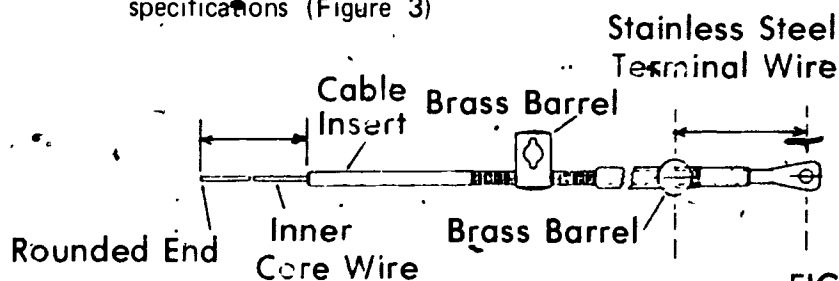

FIGURE 3
4. Pull core wire out of outer cable and measure to service manual specifications (Figure 3)